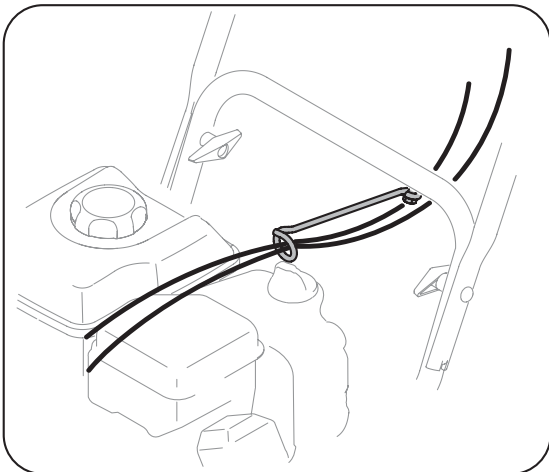

Figure 3-7
- If not already attached, slip the cables that run from the handle panel to the discharge chute into the cable guide. See Figure 3-7.